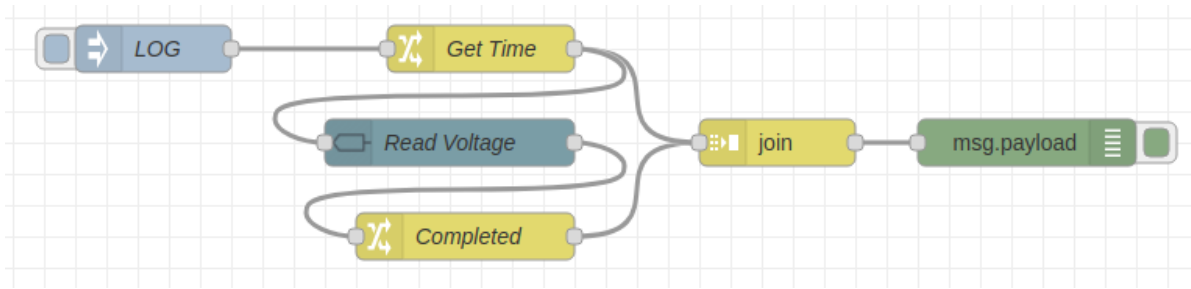

Figure 7-121: Voltage Logging First Flow
Note that even though you have defined the message property `msg.complete` the payload received by the Change node is still passed to the output. In the case of the flow in Figure 7-121 this message is the voltage read from the voltage in port.
**Second Step:** write the output to a file. Modify the flow in Figure 7-121 to replace the Debug Node with the Write to File Node from Figure 7-110 as shown below.